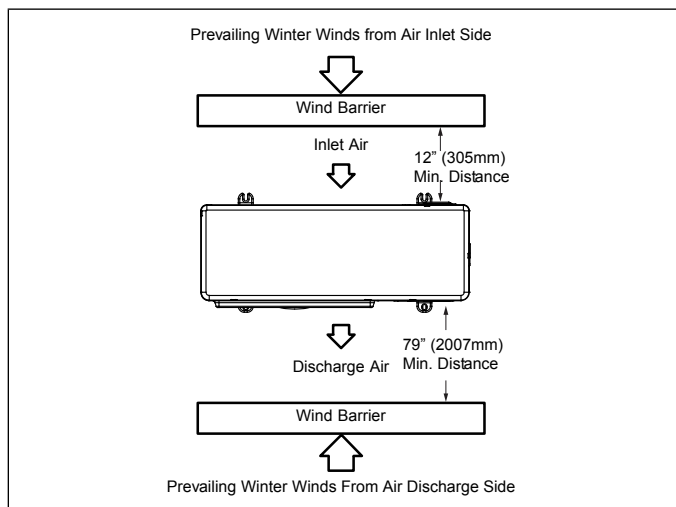

Figure 15. Wind Barrier
- When prevailing winds are from the air inlet side, then position the wind barrier a minimum of 12 inches (305 mm) from the unit as illustrated in “Figure 15. Wind Barrier”